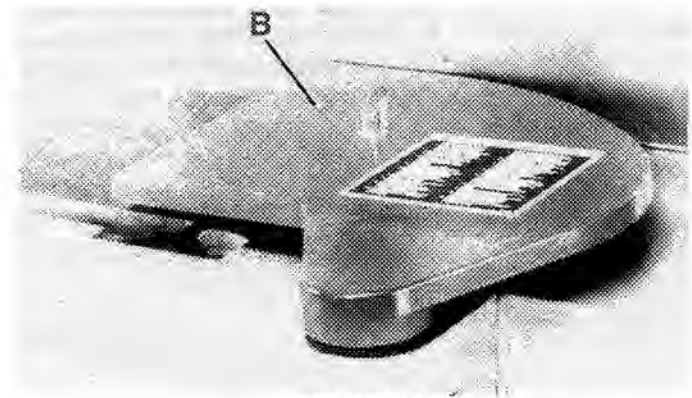

FIGURE 16
4. Fig. 16 illustrates the cutterhead guard (B) assembled to the jointer.